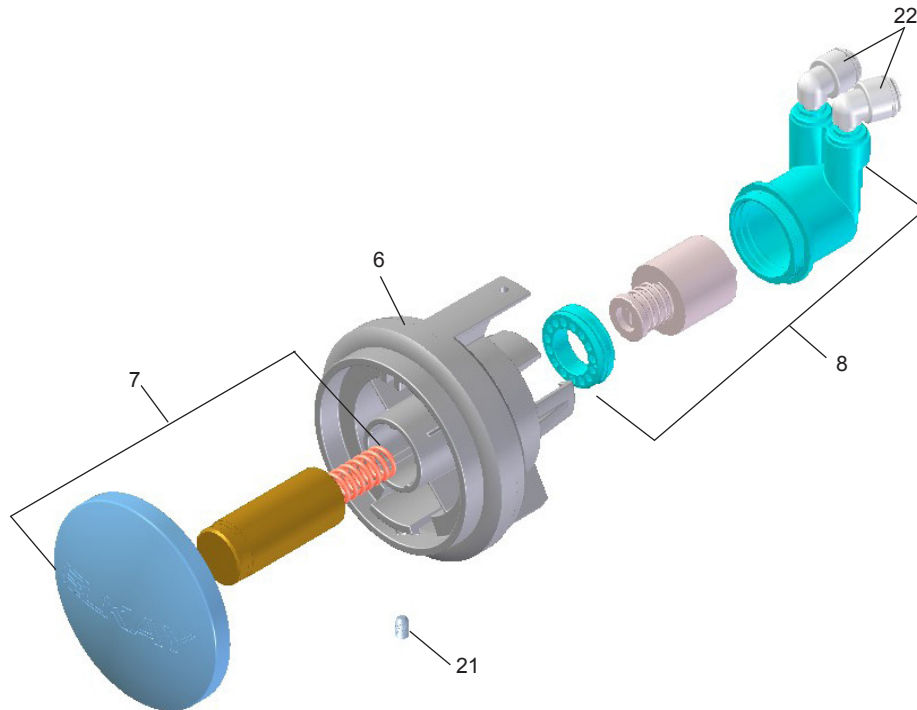

Figure 6 - Push Button Assembly
15. Check stream height from bubbler. Stream height is factory set for 35 PSI supply. If supply pressure varies greatly from this, remove push button (Item 7 - Fig. 6) and adjust the screw on the regulator (Item 8 - Fig. 6). To remove push button, remove setscrew from bottom of sleeve (Item 21). Insert a small punch in screw hole and push up while grasping the push button and pull forward removing the push button. Clock wise adjustment will raise stream height and counterclockwise movement will lower stream height. For best adjustment stream should hit basin approximately 6-1/2" from the bubbler. Reassemble the push button by pushing in on button until the push button catches in the sleeve. Reinstall the set-screw (Item 21) in the sleeve (Item 6).